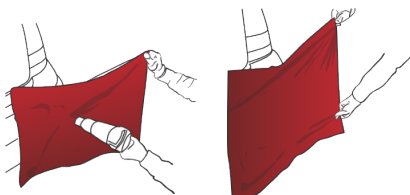
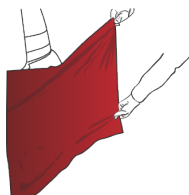

Figure 12
Figure 13
- › Heat the vinyl to a temperature ranging from 40 °C to 50 °C (from 104 °F to 122 °F), (FIG. 12) then stretch the film so as to completely wrap the convex surface. (FIG. 13)